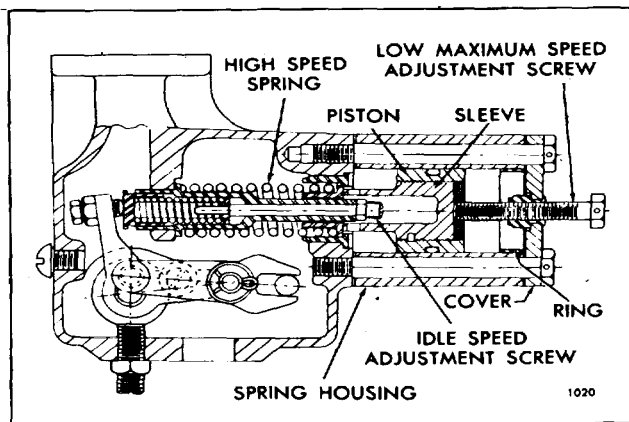

Fig. 1 - Spring and Piston Assembly of Former Dual Range Governor
**NOTE 1:** The finished surface of the operating fork must be placed against the outer side of the thrust bearing as shown in Fig. 1 in Section 2.7.1.
10. Position the fuel rod (14) over the differential lever pin (Fig. 1 in Section 2.7.1). Place a flat washer over the pin and secure it with the retainer (25).
12. Place a new gasket (4), Fig. 1, on the governor control housing and mount the governor cover on the housing with the pin on the throttle shaft (7) registering with the machined slot in the differential lever (23).
The limiting speed mechanical double weight dual range governor is similar to the limiting speed governor shown in Fig. 1 in Section 2.7.1 except for the spring and piston assemblies illustrated in Figs. 1 and 2.
Due to the governors dual speed feature, it permits a high engine speed in the lower gear ratios for maximum vehicle acceleration while providing a conservative vehicle speed in the higher gears. The valve of the governor is usually connected to the transmission. Shifting the transmission from a lower gear to a higher gear will automatically shift the governor from its high maximum speed range to the low maximum speed range. This two speed operation is accomplished by the use of air pressure behind a piston (Figs. 1 and 2) to increase the tension on the governor high speed spring. The removal of air pressure from behind the piston permits the governor high speed spring to force the piston against the low maximum speed adjusting screw that retains enough tension in the governor high speed spring to operate the engine at the desired lower speed.
1. Remove the two bolts securing the spring housing cover and withdraw the cover, piston, sleeve and low maximum speed adjustment screw as an assembly (Figs. 1 and 2).